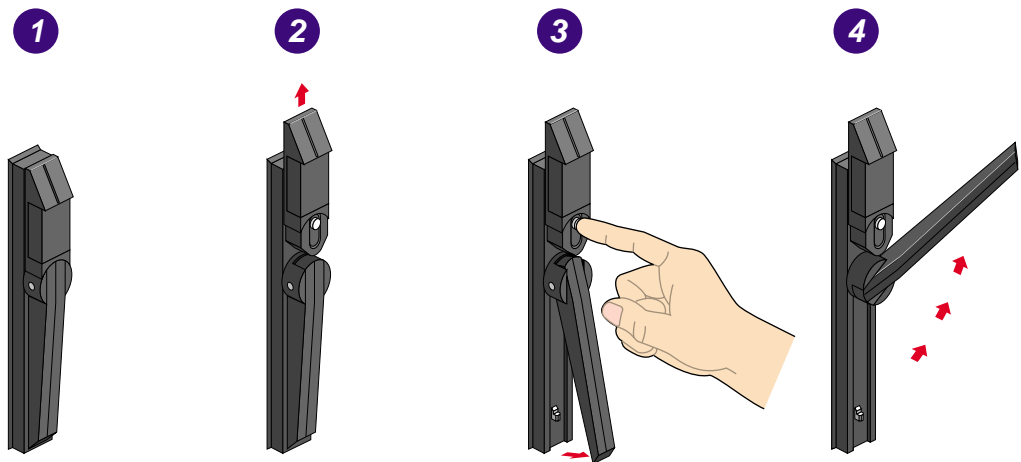

Figure 1-23 Opening the Rack Rear Door: Latch
2. Push up the top part of the latch, as shown in the second panel of Figure 1-23.
3. Press the button, as shown in the third panel of Figure 1-23. This action releases the door lever.
4. Pull the door lever up and to the right, to approximately the 2 o'clock position, as shown in the fourth panel of Figure 1-23. The door opens.